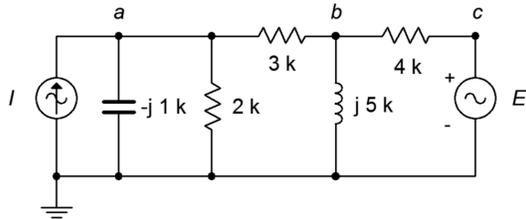

Figure 6.11
21. Given the circuit in Figure 6.11, use mesh analysis to determine  $v_b$ . Consider using source conversion.  $E = 12\angle 0^\circ$ ,  $I = 10\text{E}-3\angle 0^\circ$ .
22. Use mesh analysis to find the current through the  $3\text{ }\Omega$  resistor in the circuit in Figure 6.11. Consider using source conversion.  $E = 15\angle 90^\circ$ ,  $I = 10\text{E}-3\angle 0^\circ$ .